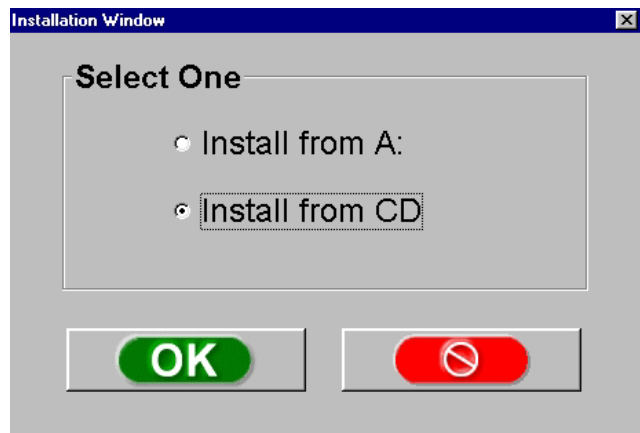

Figure 3-25
9. Insert the specification CD in the DVD drive and choose the “**Install from CD**” radio button and click on **<OK>**. (Figure 3-25)